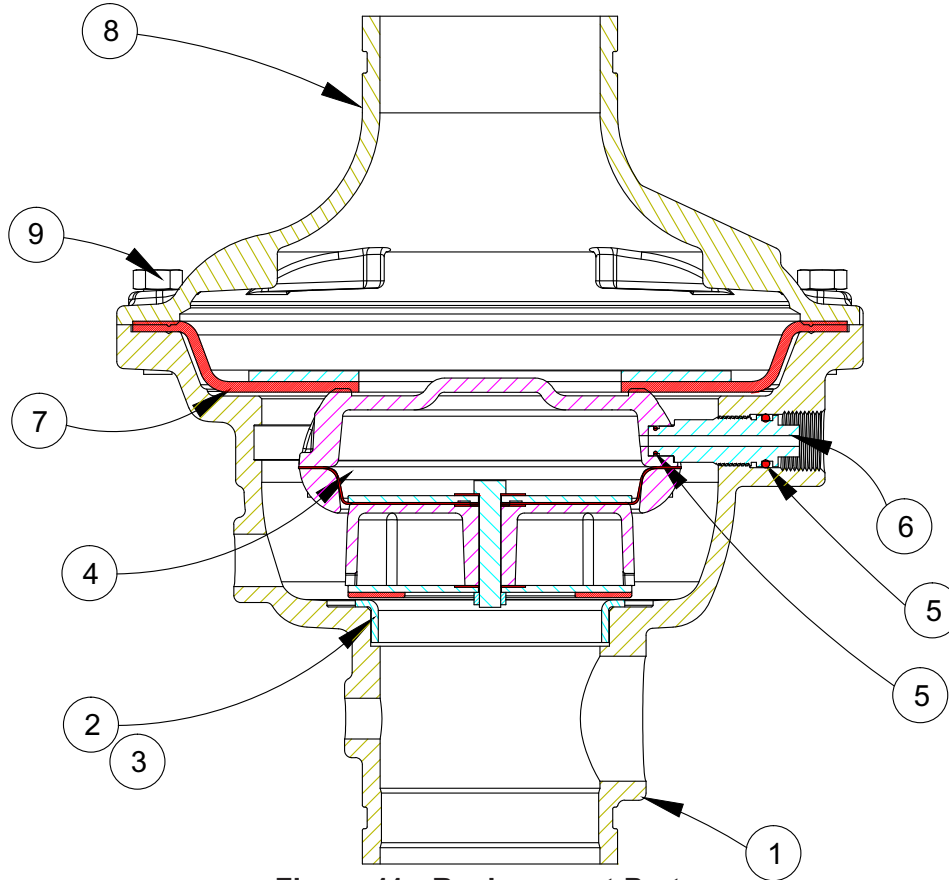

Figure 11 - Replacement Parts
6. The cover (11) and trim that is still connected may now be removed from the body. (It may be necessary to pry the valve open as the diaphragm may bond itself to the cover (11) and valve body over time.)
C. Removing / Replacing the Check Diaphragm: (Refer to Figure 11.)
1. The check diaphragm (10) may be lifted from the valve body (1).
2. If necessary, replace the check diaphragm (10).
D. Inspecting the Prime Chamber and Coupling for leaks: (Refer to Figure 11.)
E. Removing / Replacing the Prime Coupling: (Refer to Figure 11.)
2. Using a wrench on the flats of the coupling (7), remove the coupling (7) from the valve body (1).
3. Inspect the coupling (7) and two O-rings (5 & 6). Replace if necessary, using the instructions in O-Ring Replacement Bulletin F_120611.
F. Removing / Replacing the Prime Chamber Assembly: (Refer to Figure 11.)
1. The prime chamber assembly (4) is now held in place by two flanges on the outside diameter of the assembly. Slide the prime chamber assembly (4) toward the prime line and remove from the body.
G. Re-Assembling the Valve: (Refer to Figure 11.)
1. Place the prime chamber assembly (4) in the valve body (1). Make sure the two flanges are positioned in the groove.
2. Thread the prime coupling (7) into the valve body (1). Make sure the end of the prime coupling (7) is inserted into the prime chamber assembly (4).
3. Tighten the 1/4" socket set screw (8).
4. Lay the check diaphragm (10) into the valve body (1).
5. Position the cover (11) onto the valve body (1), and install and tighten the cover screws (12).